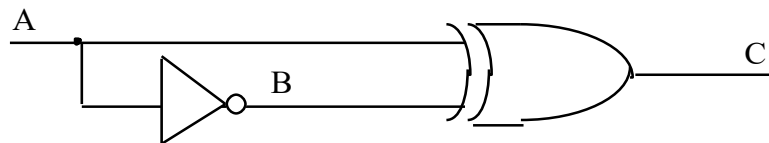
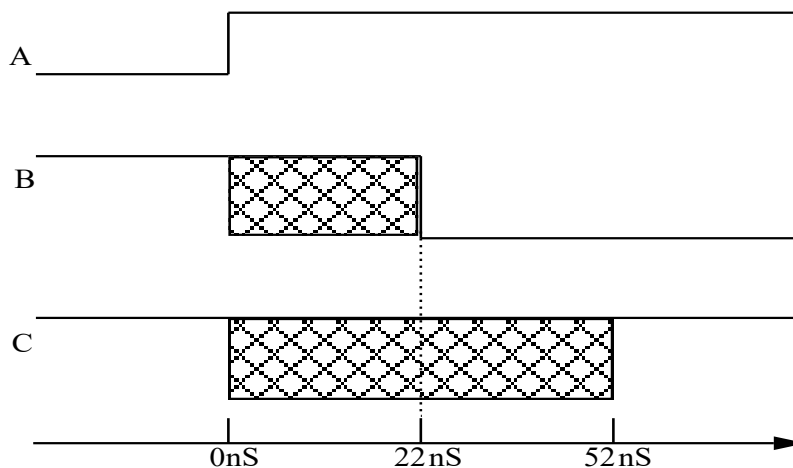

Figure 11 - Propagation Delay Example Circuit
Figure 12 - Propagation Delay Example
The circuit of Figure 11 should always output a logic one at C as it implements the steady-state logic equation  $C = A \oplus \bar{A} = 1$ . However, due to the finite delays of the gates used, it may momentarily output a logic zero (a glitch) right after the input A changes. The inverter in the circuit of Figure 11 is from a 7404 chip. The 7404 has a typical propagation delay of 10ns, and a guaranteed maximum delay of 22ns. The exclusive-or gate (7486) has a typical delay of 14ns and a maximum of 30ns. Note that neither of these gates has a guaranteed minimum delay time; therefore, the assumed minimum delay is zero. When preparing a timing diagram always use the worst-case propagation delays, not the typical!
A timing diagram for the circuit of Figure 11 is given in Figure 12. At time  $T = 0$ , the input A changes from a zero to a one. The output of the inverter (B) is unknown from time  $T = 0$  until time  $T = 22$  ns. The value of B probably changes somewhere around 10ns (the typical delay time), but the output cannot be guaranteed until  $T = 22$ ns. Since B is an input to the XOR gate, its output cannot be guaranteed until 30ns (maximum propagation delay) after the value of B is known. The cross-hatched areas in the timing diagram are the times when the signal value is unknown. The XOR output, C, is unknown for 52 ns after the input A changes. During those 52 ns, the output may be at logic zero or logic one. If it becomes a logic zero at any instance during these 52ns, then the circuit is said to produce a glitch.